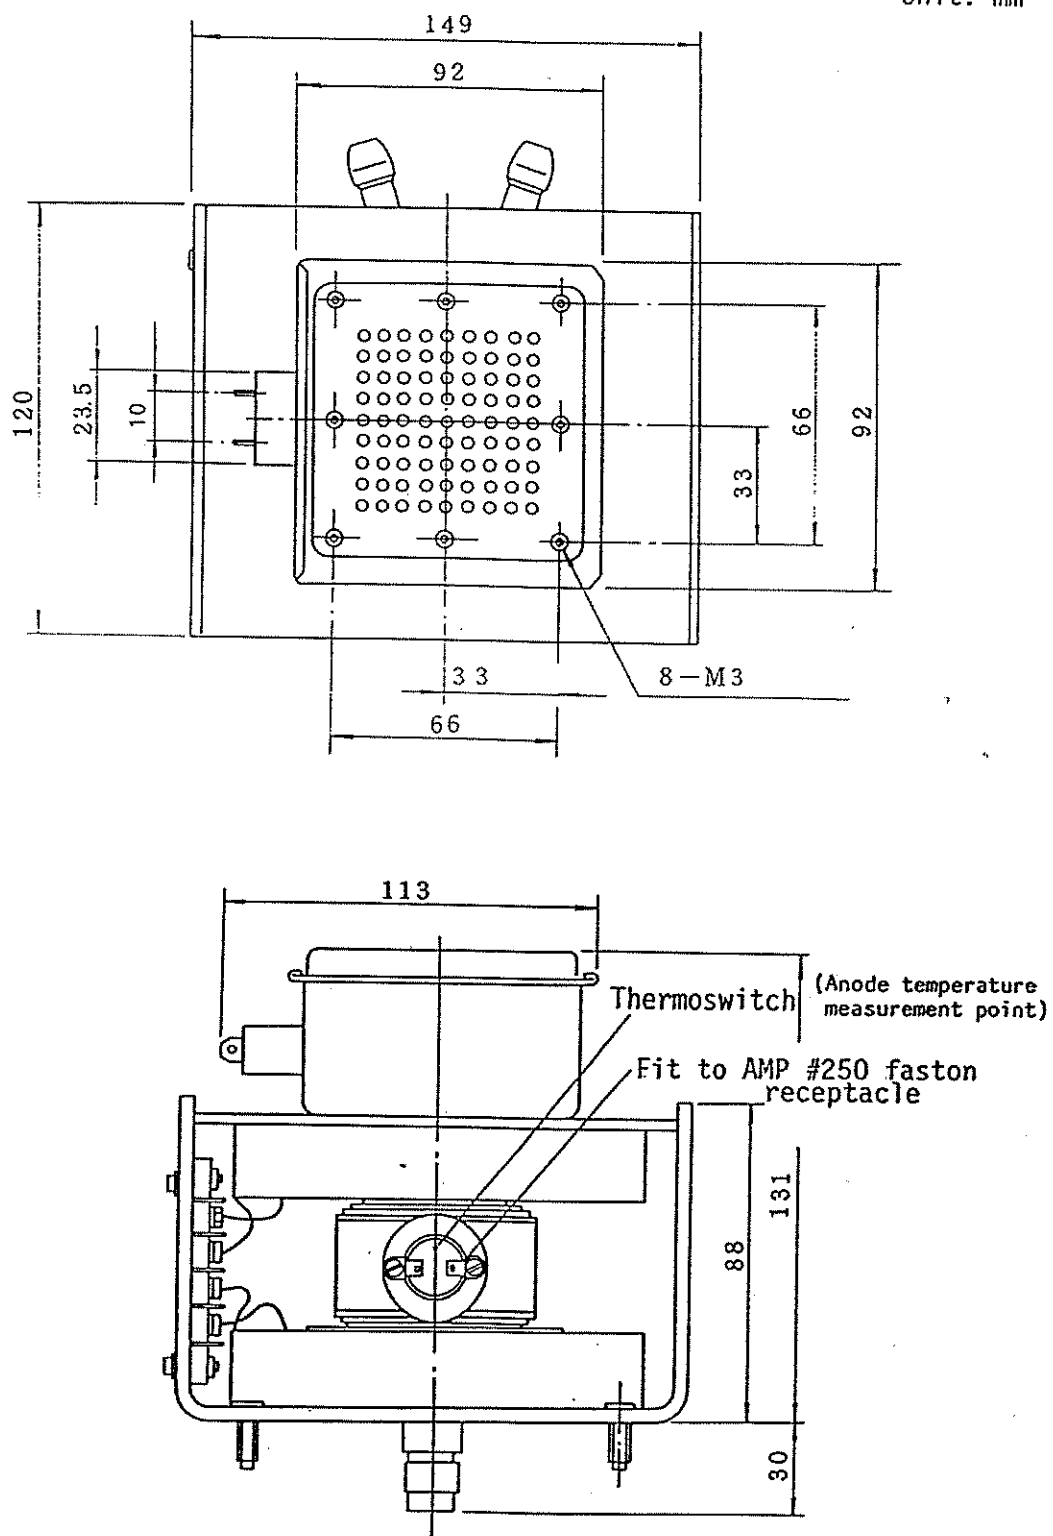

Fig. 7.2 DIMENSIONAL OUTLINE
Definition of electromagnet current direction; See figure 7.2
- (1) Directions of leakage magnetic field are shown in figure 7.2.
- (2) Operating condition